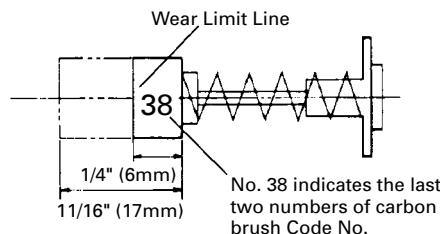
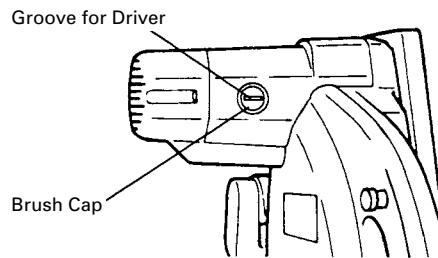

Fig. 43
Fig. 44
- (1) Loosen the 8mm nut and tighten the four 8mm hexagon socket set screws until the power tool operates smoothly without looseness.
- (2) Properly tighten the 8mm nut after completing these adjustment.
3. Inspecting the carbon brushes (Fig. 43 and Fig. 44)
Therefore, inspect the carbon brushes periodically and replace them when they have become worn to the wear limit line as shown in Fig. 43.
The carbon brushes can easily be removed after removal of the brush caps (see Fig. 44) with a slotted (minus) screwdriver.